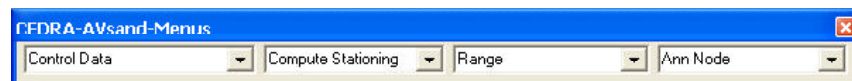
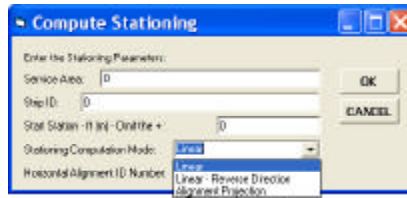
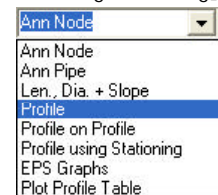
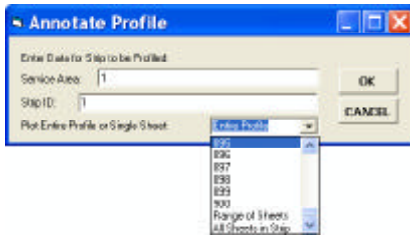

Figure 12 - The CEDRA-AVsand-Menus Menu Combo Box Bar
Figure 13
Figure 14
Figure 15
To assign station values to sewer model nodes in an automated fashion, we will use the [Compute Stationing] command which is located in the second menu combo box (see Figure 11) of the CEDRA-AVsand-Menus menu combo box bar (see Figure 12). In using this command there are three ways to assign station values to the sewer model nodes within a sewer strip:
1. **Click** at the **second combo box** of Figure 12, and **select** the **Compute Stationing** command to display the dialog box of Figure 13.
Having stationed the sewer alignment, we are now ready to develop its profile. For this, we will use certain commands of the CEDRA-AVsand-Menus menu combo box of Figure 12, and we will:
In perusing the commands of Figure 14, we see commands which pertain to profiles. The [Profile] command generates the profile of a sewer strip along with a grid, while the [Profile using Stationing] command enables the user to reposition the sewer profile using the station value assigned to a node. The [Profile on Profile] command superimposes one profile upon another profile.
1. Click at the **fourth** menu combo box of the *CEDRA-AVsand-Menus* menu combo box bar (see Figure 12), and **select** the **Profile** command (see Figure 14) to display the dialog box of Figure 15.
Note that the first two data fields contain the information that was entered in the dialog box of Figure 13. The values of these two data fields would be the same because we have only one service area and one strip. If there were more than one of each, the user could station all strips in all service areas, and then invoke the [Profile] command, and select the strip to be profiled.
10. **Click** at the **fourth** menu combo box of the **CEDRA-AVsand-Menus** menu combo box bar (see Figure 12), and **select** the **Profile** command (see Figure 14) to display the dialog box of Figure 15. The previously made entries and selections are remembered.
17. **Click** at the **fourth** menu combo box of the **CEDRA-AVsand-Menus** menu combo box bar (see Figure 12), and **select** the **Profile using Stationing** command (see Figure 14) to display the dialog box of Figure 18, which is similar to that of Figure 15, with the exception that a fourth (choice) data field has been added. The previously made entries and selections are remembered.
1. **Click** at the **fourth** menu combo box of the *CEDRA-AVsand-Menus* menu combo box bar (see Figure 12), and **select** the **Profile** command (see Figure 14) to display the dialog box of Figure 15. The previously made entries and selections are remembered.